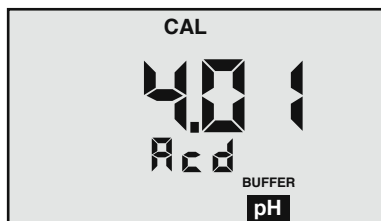

Figure 4
2. At this point the “CAL”, “BUFFER” and “Acid” or “bAS” annunciators will be displayed (see Figures 4 and 5).